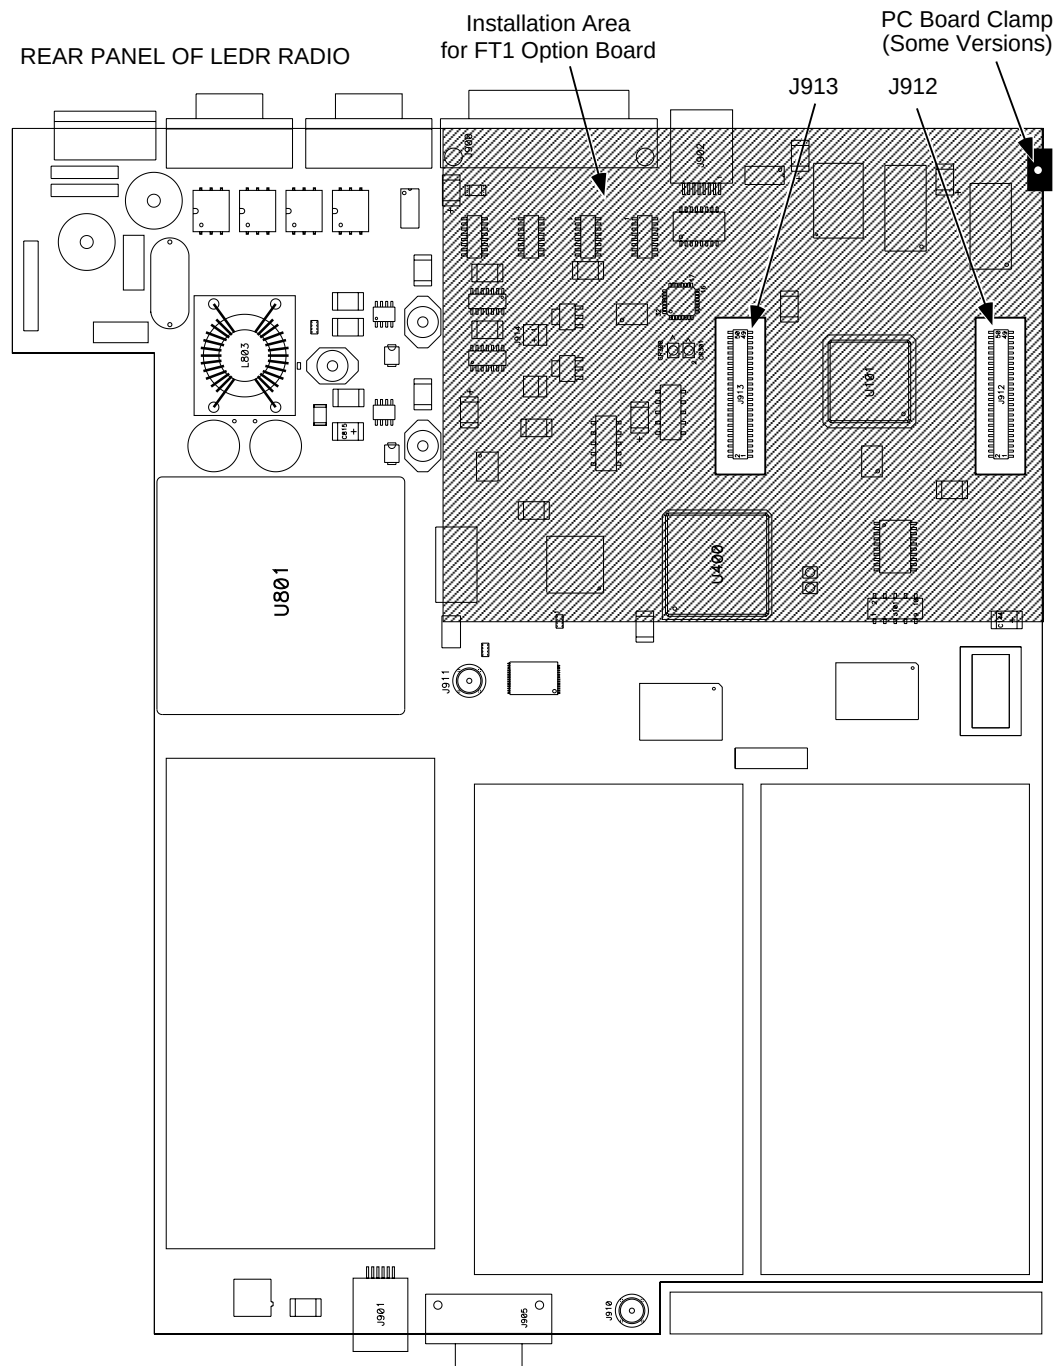

**Figure 21. View of Radio PC Board
2. Locate the installation area for the FT1 option board (see Figure 21). Remove the three phillips screws on the main PC board which correspond to the mounting holes on the FT1 option board.
4. Locate connectors J912 and J913 (see Figure 21). These connectors mate with the plugs on the bottom of the FT1 option board.